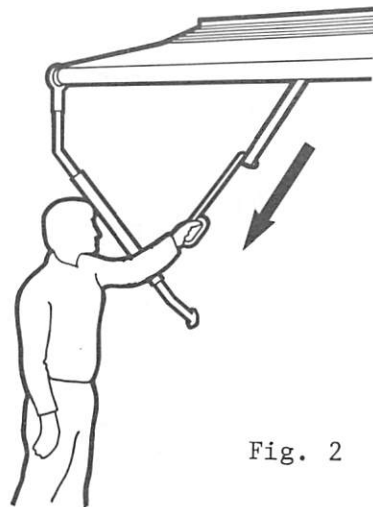

Fig. 2
- Step 2. Insert the pull rod into the loop of the center control strap and unroll the awning by pulling it toward you (Figure 2). Step under the awning and fold or roll the control strap toward the backside of the roller and tuck under restraining strap.